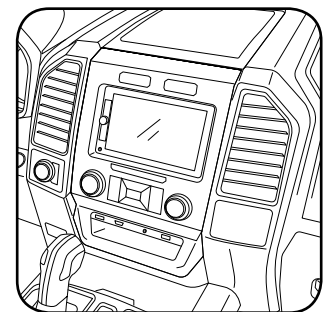

Fig. 2.0
7. Connect all the harnesses to the FTR1 kit, and secure it in the dash. Test your installation before completely re-assembling the bezel to the truck. (Fig. 2.0)